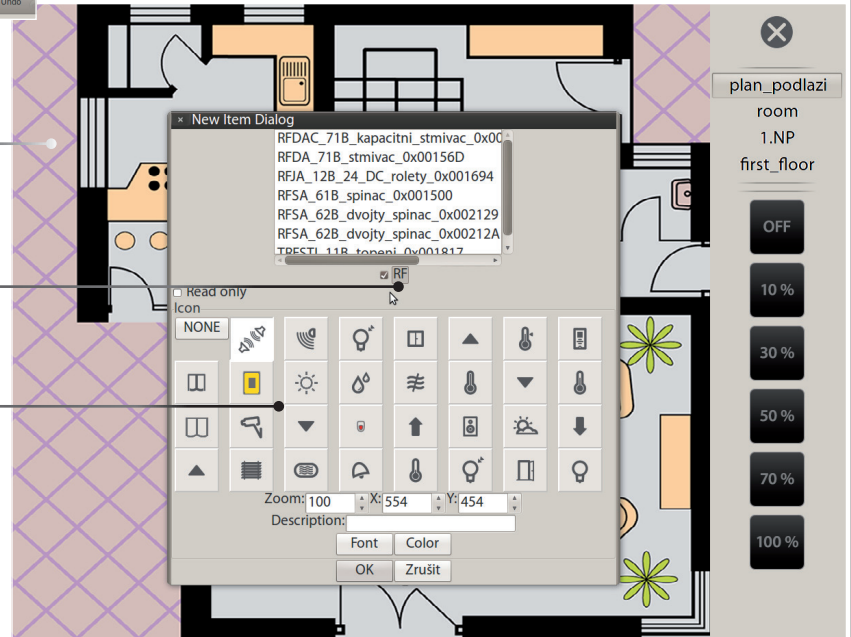

fig.5
- upon opening the dialog for selecting the elements we must tick the window for switching the selection of iNELS and RF elements placed just under the selection of the assigned elements (fig.5)